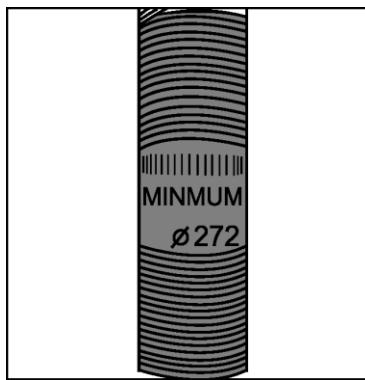

Figure 1: Handlebar or seat post
- **Handlebar and seat post:** see **figure1**. A rippled line is engraved in the seat and handlebar post. This is the minimum length that the seat post should remain in the frame or the handlebar post in the steering column.